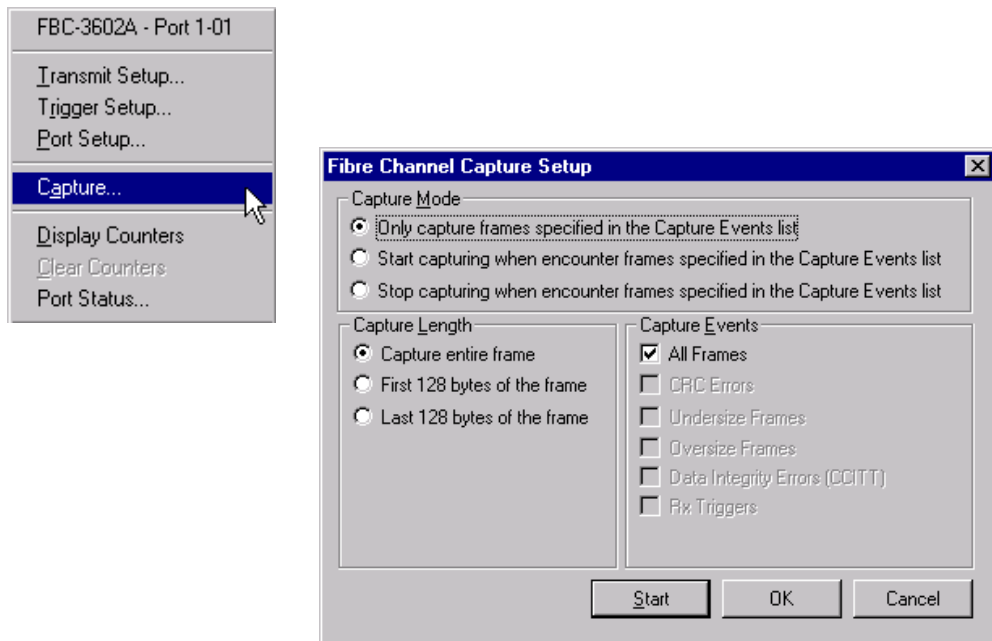

Figure 13-25.Fibre Channel Capture Setup Dialog
- 1 Select **Capture...** from the module menu, then specify the capture parameters in the *Fibre Channel Capture Setup* dialog box (Figure 13-25).